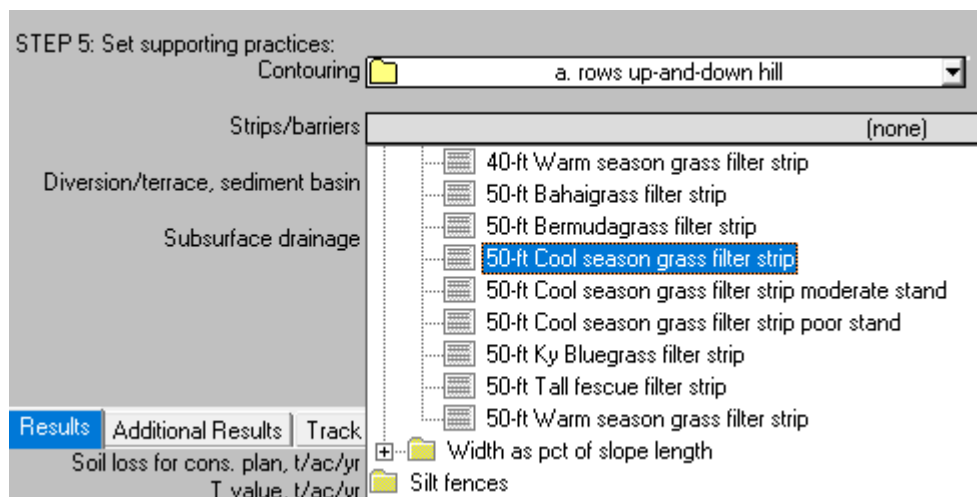

Figure 16. Strips/Barriers
- Return to RUSLE. Using the same profile that was used in the previous step, add a filter strip in the Strips/Barriers drop down menu. Select Filter Strip, Actual Width, 50-Ft Cool Season Grass Filter Strip (Figure 16).